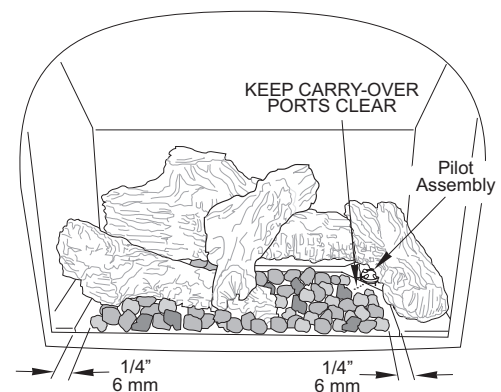

Figure 24. Position embers loosely and maintain 1/4" clearance from the burner skirt edges.
**TO INSURE PROPER BURNER FUNCTION, DO NOT OBSTRUCT THE PILOT ASSEMBLY AND BURNER SKIRT OPENINGS WITH EMBER STONES. KEEP EMBERS OFF OF THE PILOT CARRY-OVER PORTS. SEE FIG. 24.**